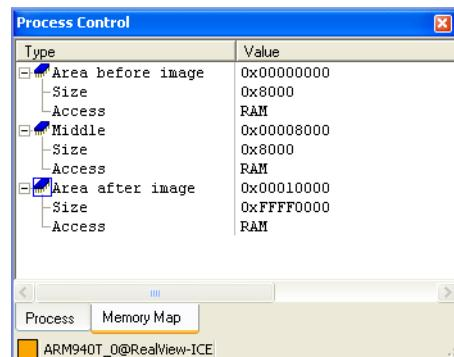

Figure 9-9 Example of a memory map
15. Expand each memory map entry to see the details. The memory map looks like that shown in Figure 9-9.